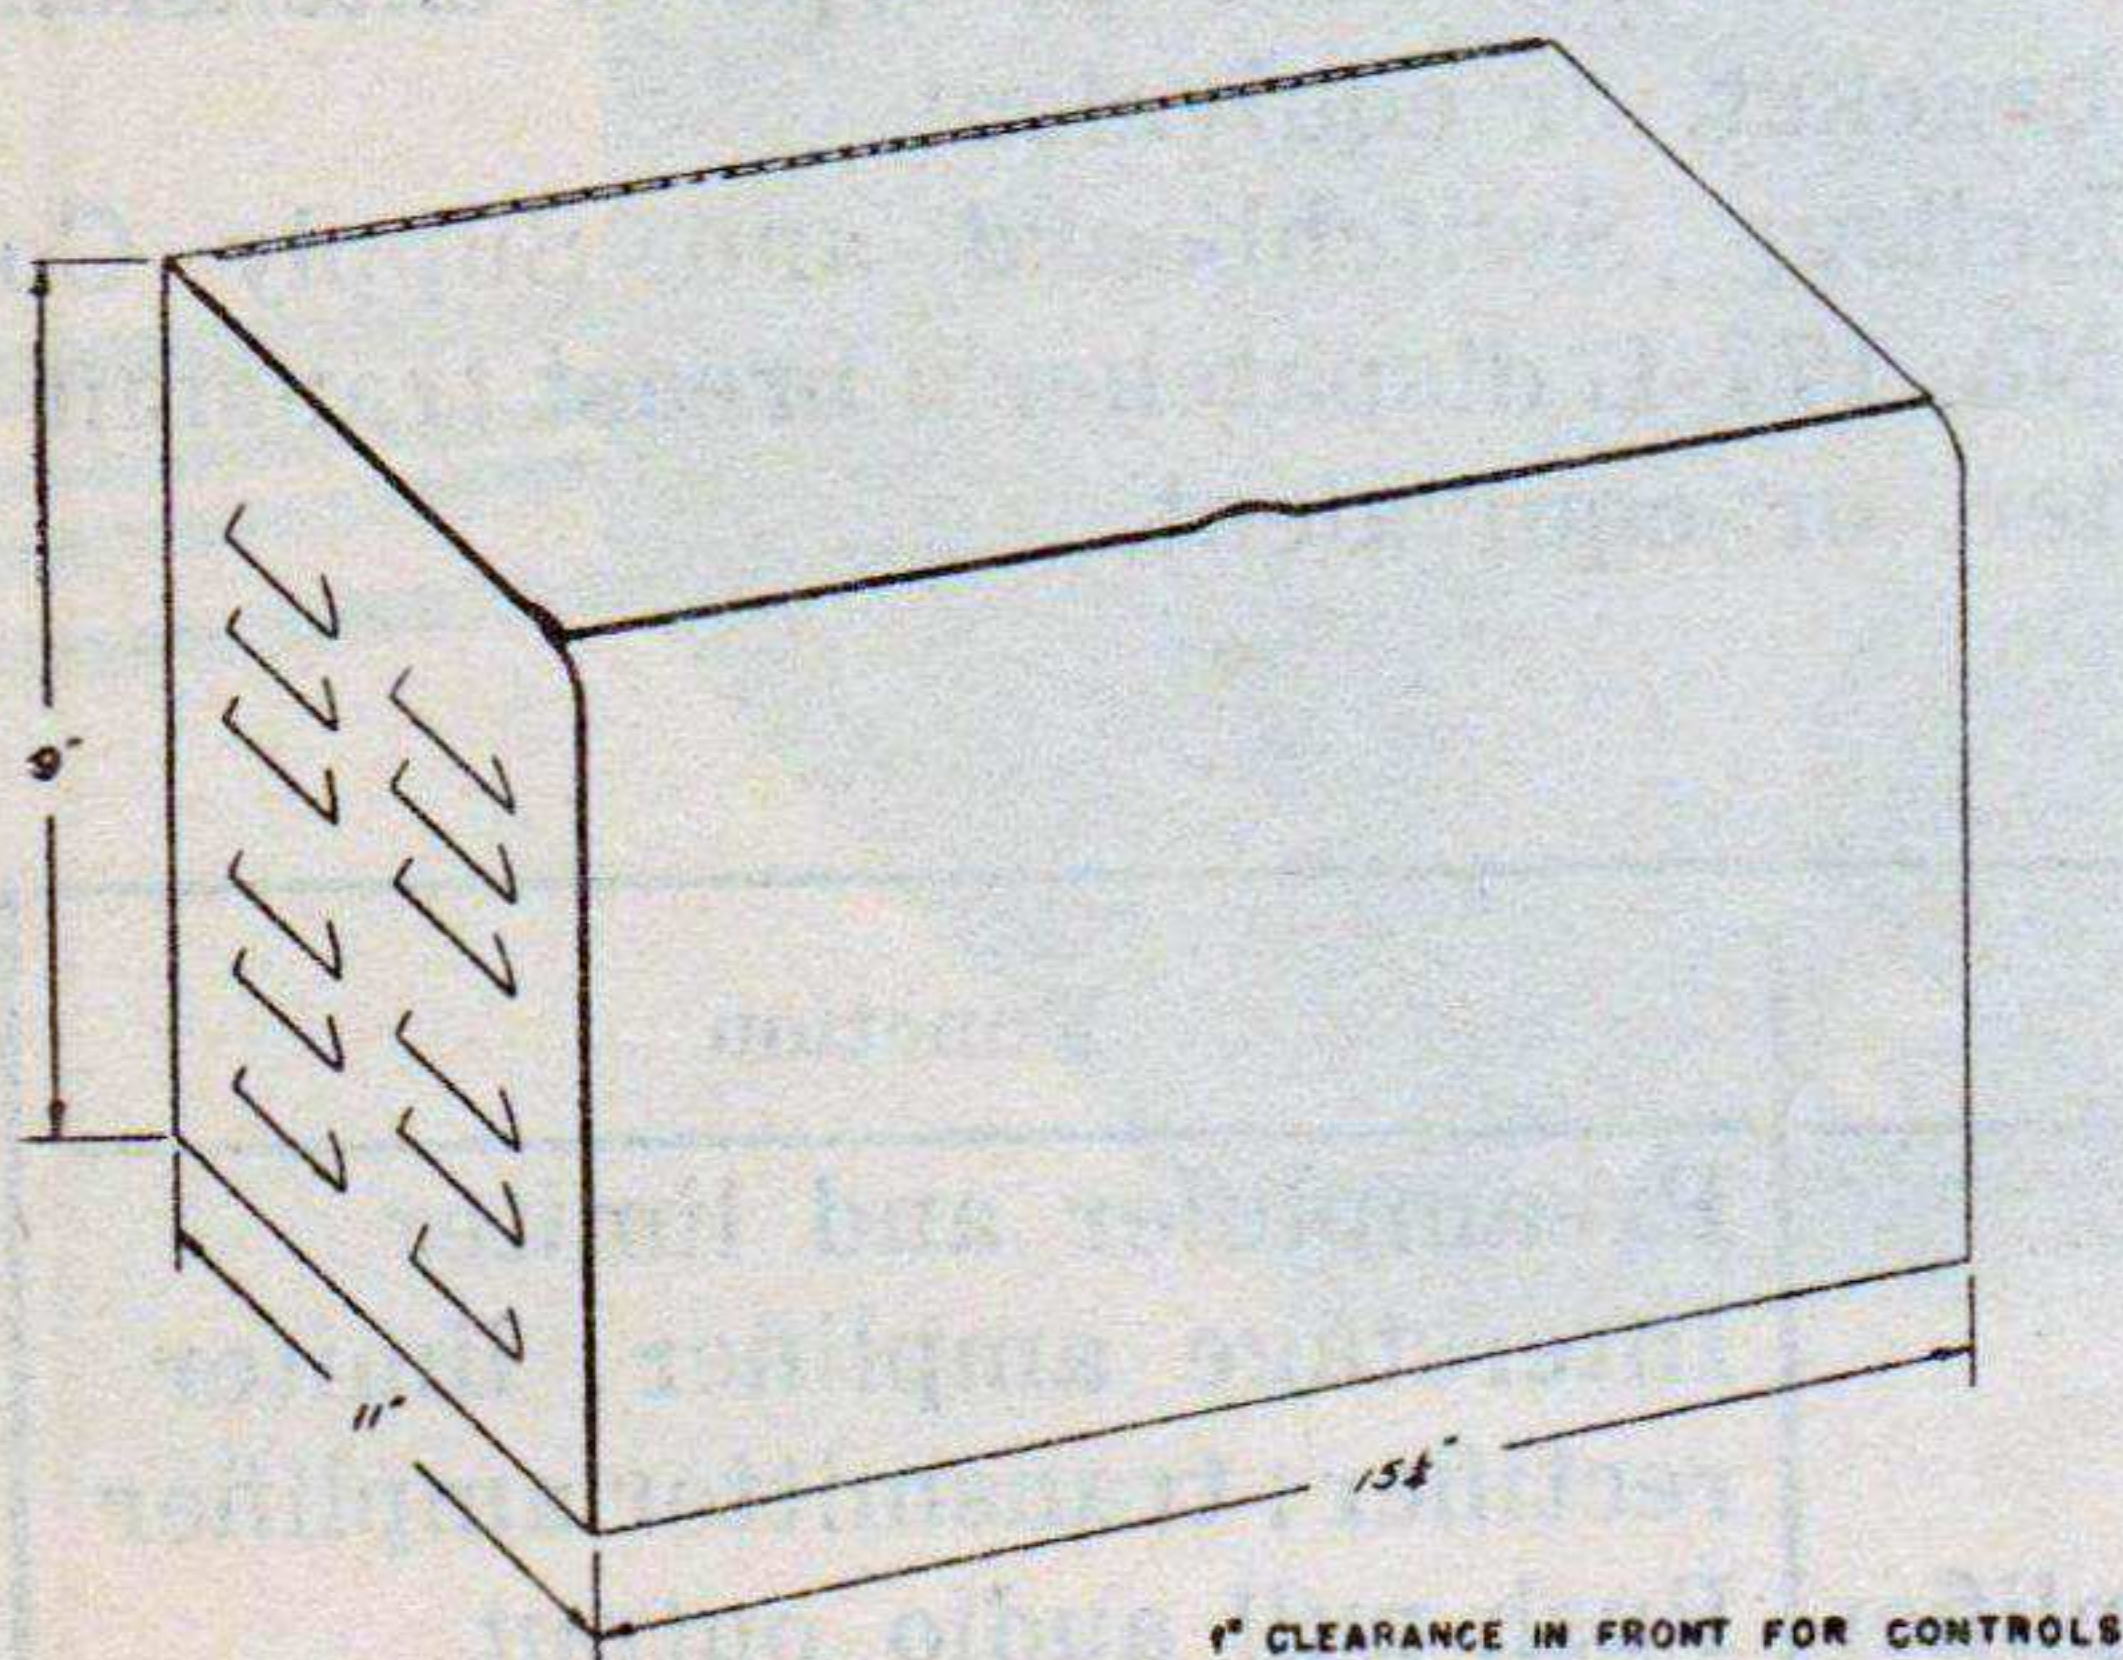

Figure 2. Amplifier, dimensional drawing.
a. Mounting. To remove the equipment from its shipping case, open the case and remove the cartons containing running spare tubes and the carton containing the loudspeaker. Before removing the amplifier, remove the four corner cushioning pads, since they might damage the neon indicator on the front panel in the removal of the set. Lift the amplifier straight up from the carton, using caution to avoid damaging anything on the front panel. Figure 2 illustrates the dimensions of the amplifier so that space may be estimated for its installation. The amplifier need not be anchored in place. The speaker may be mounted in place in the Western Electric type 47 extension bracket.